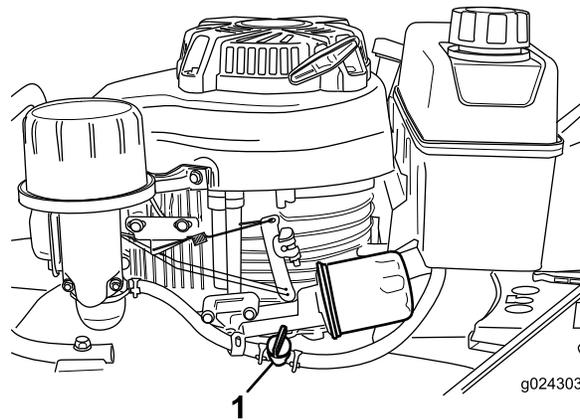

Figure 12
2. Open the fuel valve (Figure 12).
Note: Close the fuel valve (Figure 12) if you will not be starting the engine soon afterward.